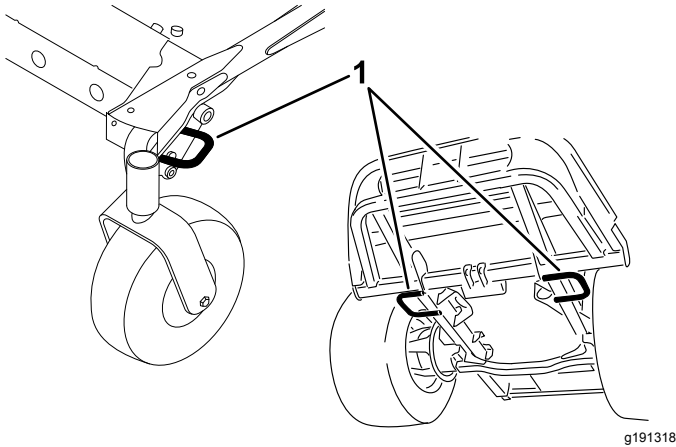

Figure 54
5. Use the tie-down loops on the machine to securely fasten it to the trailer or truck with straps, chains, cable, or ropes (Figure 54).